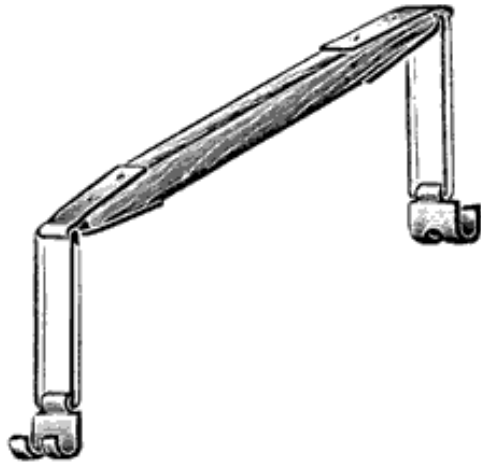

Fig. 116. Battery Carrier
**Battery Carrier.** Figure 116 shows a very convenient battery carrier, having a wooden handle with two swinging steel hooks for attaching to the battery to be carried. With this type of carrier no strain is put on the handle, as is the case if a strap is -used.